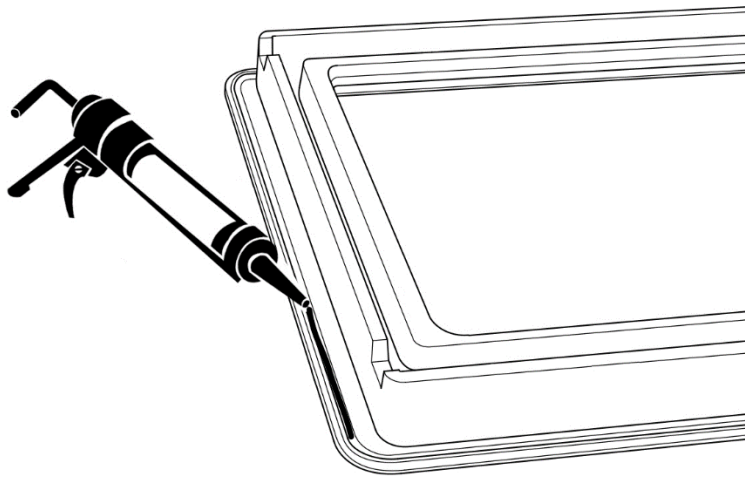

Fig 15
- Apply a thick continuous bead of stick and seal/ (polyurethane) around the inner lip (Fig 15) of the outer window (PART A) (Fig 14)
- Once you have applied the stick and seal bead align the outer frame (Part A) with aperture in the vehicle and then push flat against body making sure that the window is level (We would recommend removing the masking tape around the window with any excess adhesive that has oozed out about 30 minutes after fitting) allow the adhesive to set. (Fig 15)